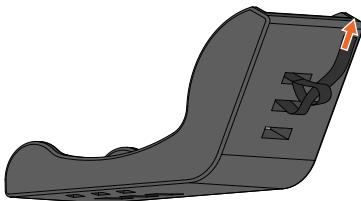

Figure 6 - Attaching loop to toddler seat.
- 7.** Take the 63 cm long strap with loop and the buckle and thread the combination through the bottom side of the toddler seat, shown in figure 6.